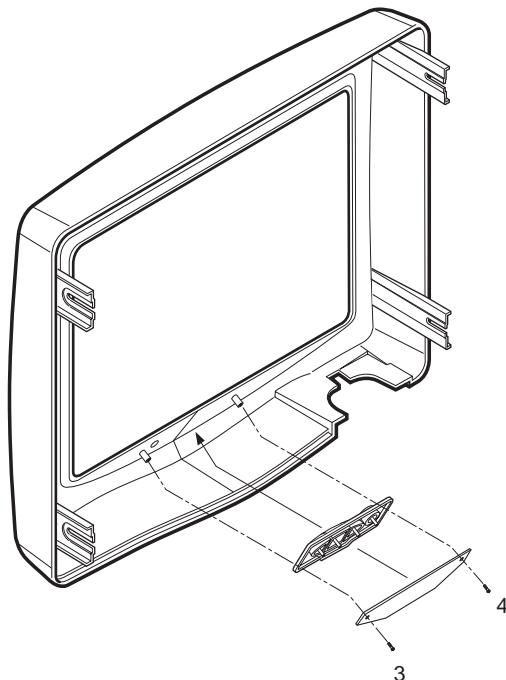

Figure 8-12 Removing Monitor S/W Assy
- 4.) Remove the Monitor S/W Assy. Refer to Figure 8-12.